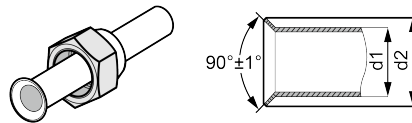

Fig.4.4.1
- (1) Use pipe cutter to cut the connection pipe in case it is unshaped.
- (2) Keep the pipe downward in case cutting scraps get into the pipe. Clear away the burrs after cutting.
- (3) Remove the flared nut connecting indoor connection pipe and outdoor unit. Then use flaring tool to fix the flared nut into the pipe (as shown in Fig.4.4.1).
- (4) Check if the flared part is flaring evenly and if there is any crack.